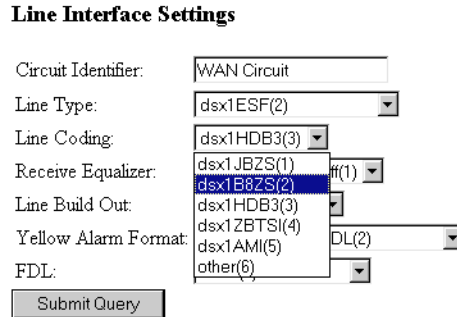

Figure 48. Line Coding pull-down menu with dsx1B8ZS(2) selected
- From the *Line Coding* pull-down menu (see figure 48), select *dsx1B8ZS(2)* or *dsx1AMI(5)*.